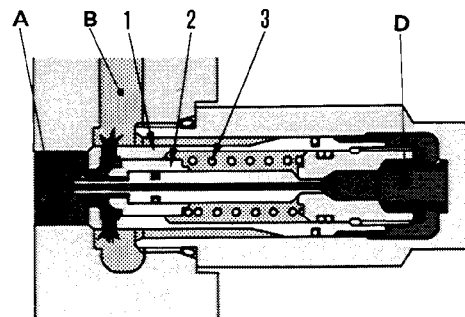

Fig. 2
- If abnormally high oil pressure occurs in port A, the suction valve (1) is not actuated because of the relationship $d_2 > d_1$. However, because of the relationship $d_3 > d_4$ in ports A and C, the hydraulic pressure on the main valve (2) is equivalent to the area difference between d_3 and d_4 . If this pressure goes up to the main valve spring force (set pressure), the main valve (2) is actuated, and the oil in port A flows into port B. (Fig. 2)